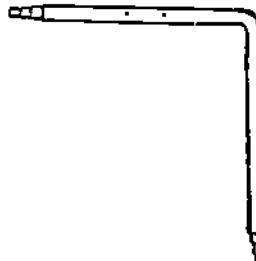

Figure 23-2. Valve-Seat Tool
4. If a new washer does not stop a leak, the trouble could be a scored valve seat, caused by gritty matter in the water. In some types of faucets the valve seat can be removed with a valve-seat tool, shown in Figure 23-2, and a new seat screwed into place.